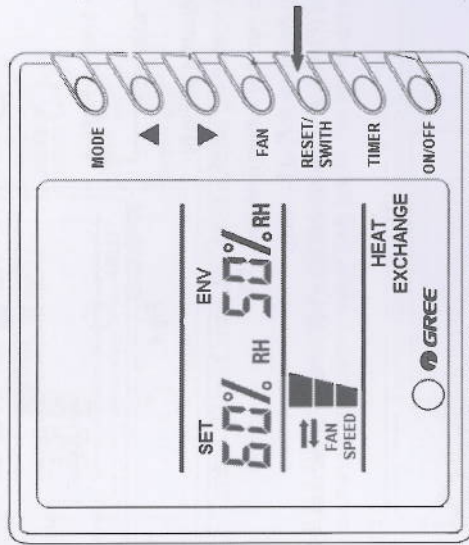

Fig.6
Note: Lock function: Pressing ▲ and ▼ simultaneously for 5s, the place of setting humidity will display EE and all response to the buttons Fig.6 will be shielded. And then press ▲ and ▼ simultaneously for 5s to release Lock Function.
- 4) Reset/ Switch Function Setting ( Fig.6)